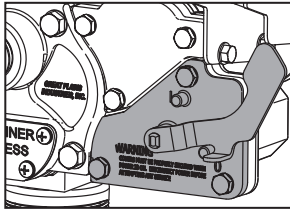

Figure 24
2. Remove the switch coverplate from the pump housing (see Figure 24).